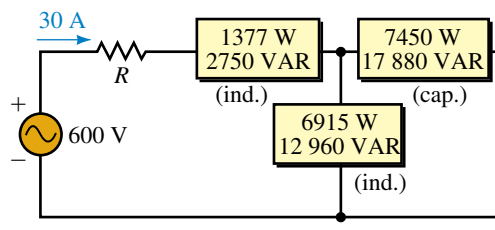

FIGURE 17-44
21. For Figure 17-44, the generator supplies 30 A. What is R ?